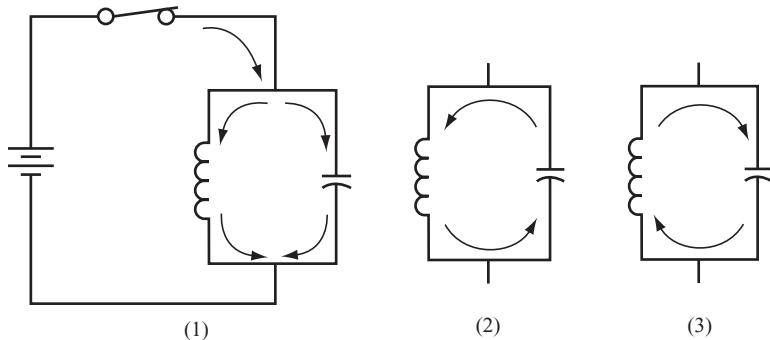

FIGURE 7.44
- 30** When the switch in the circuit shown in drawing (1) of Figure 7.44 is closed, current flows through both sides of the parallel LC circuit in the direction shown.
It discharges through the inductor. (Note the current direction, shown in drawing [2] of Figure 7.44.)
32 Because there is no current in the inductor, its magnetic field collapses. The collapsing of the magnetic field induces a current to flow in the inductor, and this current flows in the same direction as the original current through the inductor (remember that an inductor resists any change in current flow), which is shown in drawing (2) of Figure 7.44. This current now charges the capacitor to a polarity that is opposite from the polarity that the battery induced.
33 Next, the capacitor discharges through the inductor again, but this time the current flows in the opposite direction, as shown in drawing (3) of Figure 7.44. The change in current direction builds a magnetic field of the opposite polarity. The magnetic field stops growing when the capacitor is fully discharged.
Because there is no current flowing through the inductor, its magnetic field collapses and induces current to flow in the direction shown in drawing (3) of Figure 7.44.
34 When the field has fully collapsed, the capacitor stops charging. It now begins to discharge again, causing current to flow through the inductor in the direction shown in drawing (2) of Figure 7.44. This “seesaw” action of current will continue indefinitely.
This lost energy can be injected into the circuit by momentarily closing and opening the switch at the correct time. (See drawing [1] of Figure 7.44.) This would sustain the oscillations indefinitely.